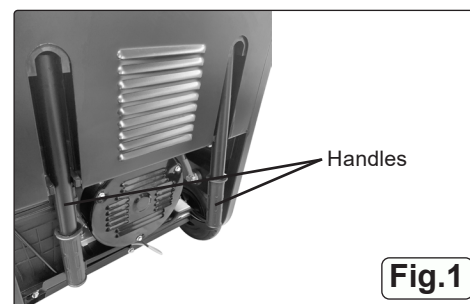

Fig.1
- 5.1. When transporting the welder generator, always turn the engine switch and fuel valve OFF, and keep the unit level to prevent fuel spillage or vapour ignition. Use the handles on the frame (Fig.1) for safe movement, and ensure the wheels are locked to prevent unintended rolling. Allow the engine and exhaust system to cool completely before handling to avoid burns or fire hazards. Handle the generator carefully, avoid dropping it, striking it, or placing heavy objects on top. For storage, keep the welder generator in a cool, dry, and well-ventilated area, away from heat sources, flammable materials, and direct sunlight. If possible, store it off the ground in a rodent-proof location to prevent moisture damage and wiring issues during long-term storage.